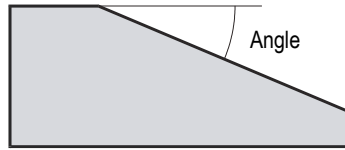

Figure 4-6 Wedge angle
- a) Select **Wedge Angle**, and then enter the angle of the wedge (see Figure 4-6 on page 99).